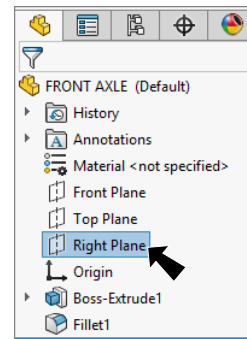

Fig. 7
Step 1. Click **Right Plane**  in the Feature Manager to select the Plane, **Fig. 7**.